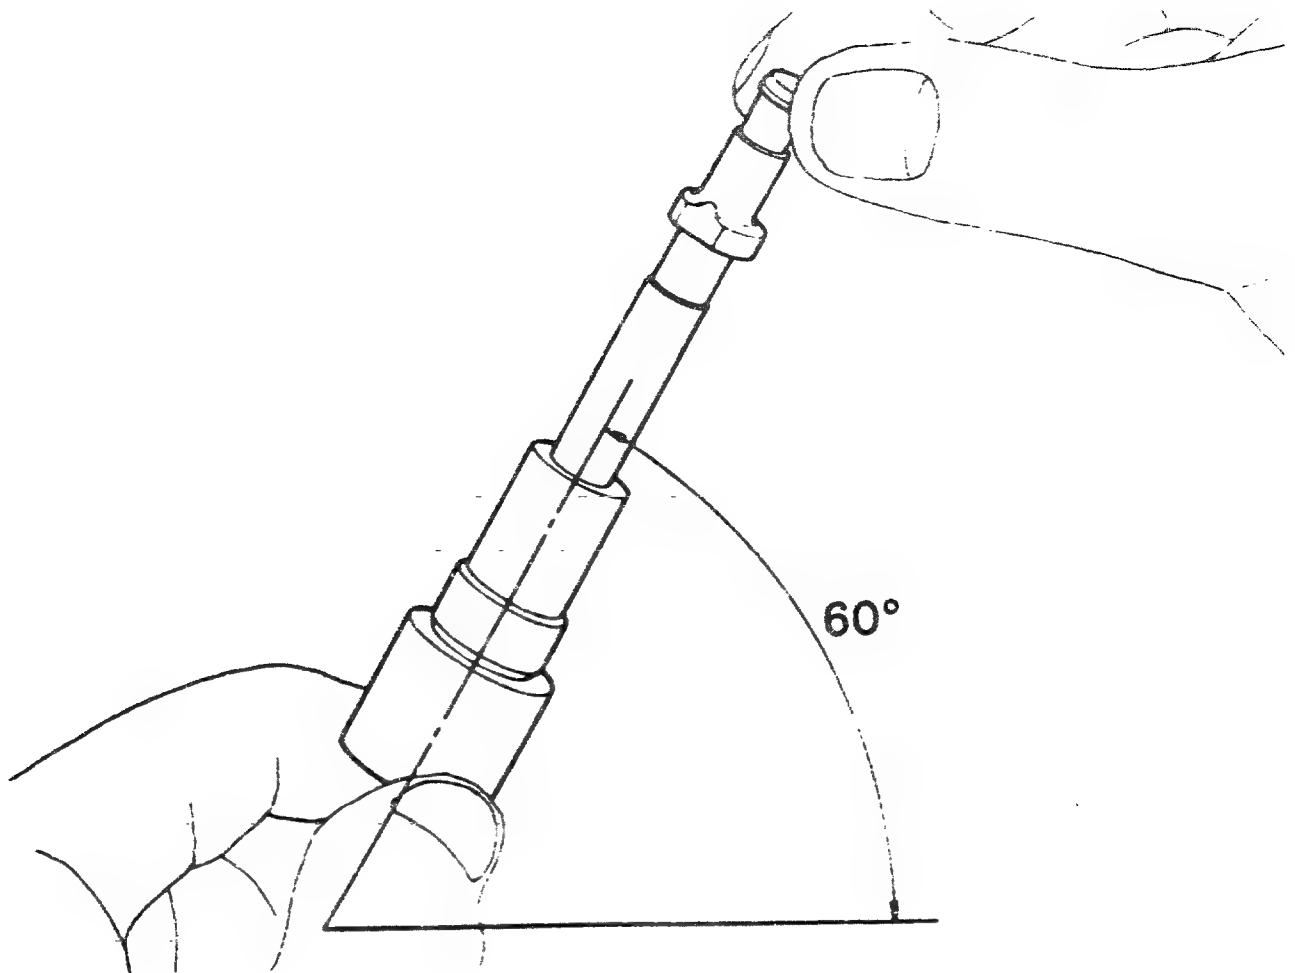

Fig. 55 Plunger inspection
2. After the plunger assembly has been washed well in clean fuel oil, tilt the plunger assembly approximately 60 degrees, as shown in Fig. 55. If the plunger slides down smoothly inside the plunger barrel, under its own weight, the condition of the plunger assembly is satisfactory. During this test, turn the plunger several times. If the plunger stops midway or it slides down too fast, replace the plunger assembly.